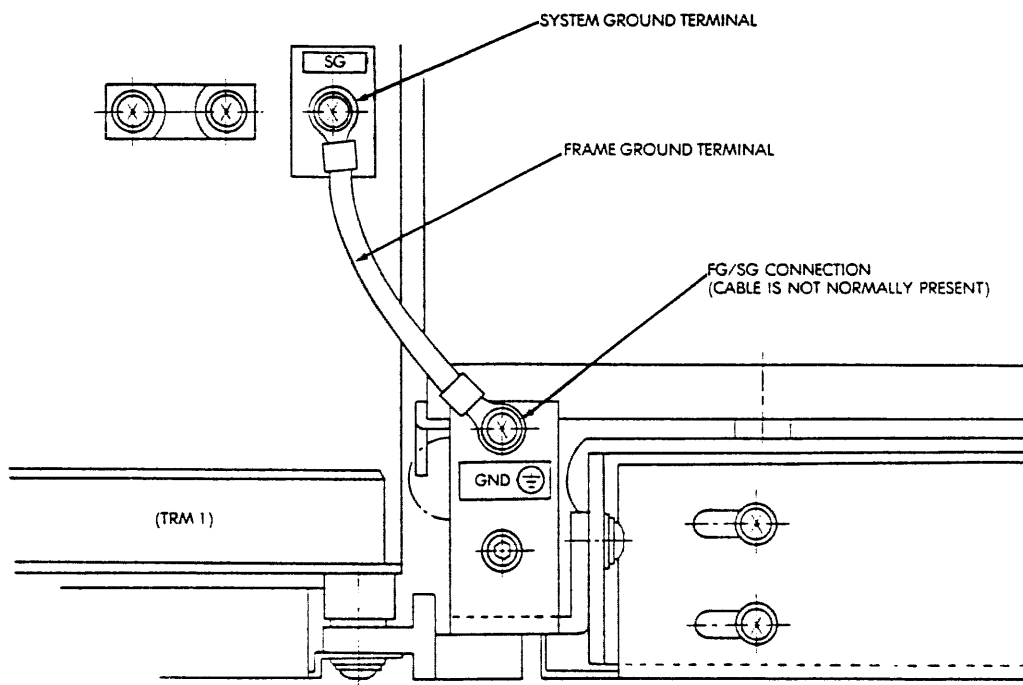

Figure 10-5. SI 9784 Drive Ground Terminal
The frame ground (FG) and the signal ground (SG) within the drive are separated. If the system requires FG and SG to be connected, attach the grounding cable between SG and the ground terminal (GND) (Figure 10-5). If the system requires a ground between the system and the drive, attach the ground conductor to the GND terminal on the drive.